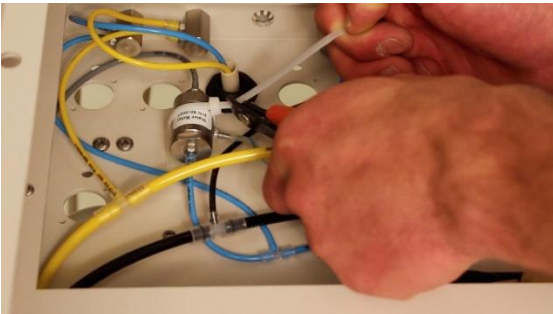

Fig. 6
- 7 Use provided zip tie (15-0132) to hold relay in place cut off excess tie. (Fig. 6)